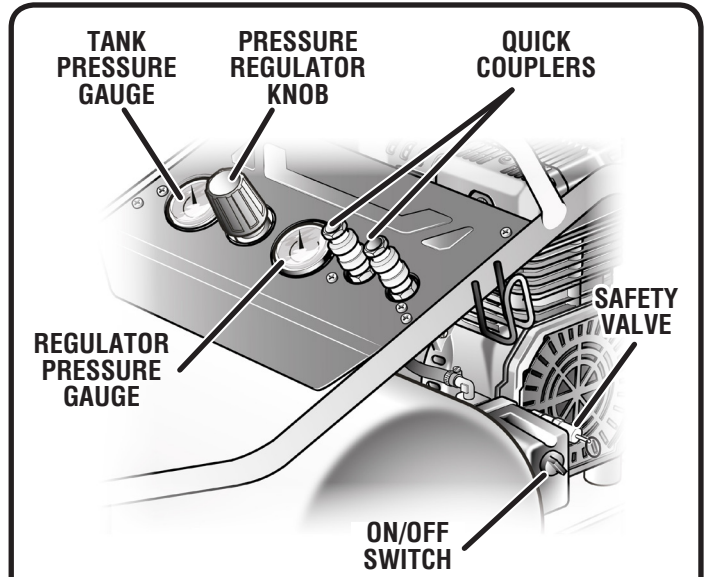

Fig. 3
- Insert the hose into the quick coupler already installed on the compressor (Fig. 3).
See Figures 3 - 5.